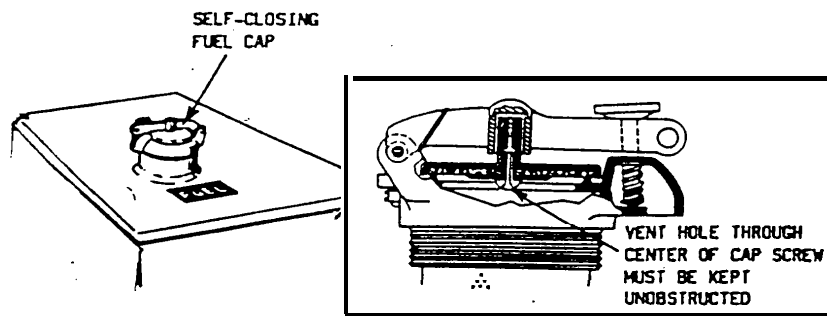

FIGURE 1
- (WEEKLY) 3. () The fuel cap is vented and self closing, and attached to the tank in a manner which will prevent loss during refueling. (Vent hole through center of cap must be operable.) (Figure 1)